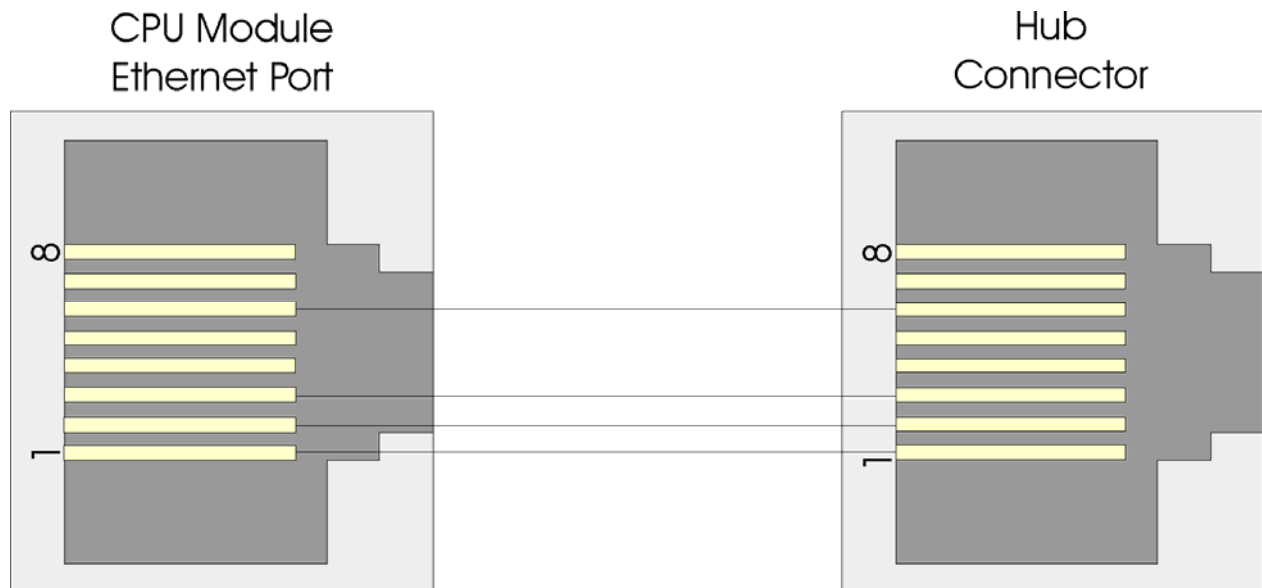

Figure 2-14 - Standard 10/100Base-T Ethernet Cable (CPU Module to Hub)
A typical Ethernet Hub provides eight (8) 10/100Base-T RJ-45 Ports (with Port 8 having the capability to link to another Hub or to an Ethernet communications port). Both ends of the twisted pair Ethernet cable are equipped with modular RJ-45 connectors. These cables have a one-to-one wiring configuration as shown in Figure 2-14. Table 2-6 provides the assignment and definitions of the 8-pin 10/100Base-T connectors.